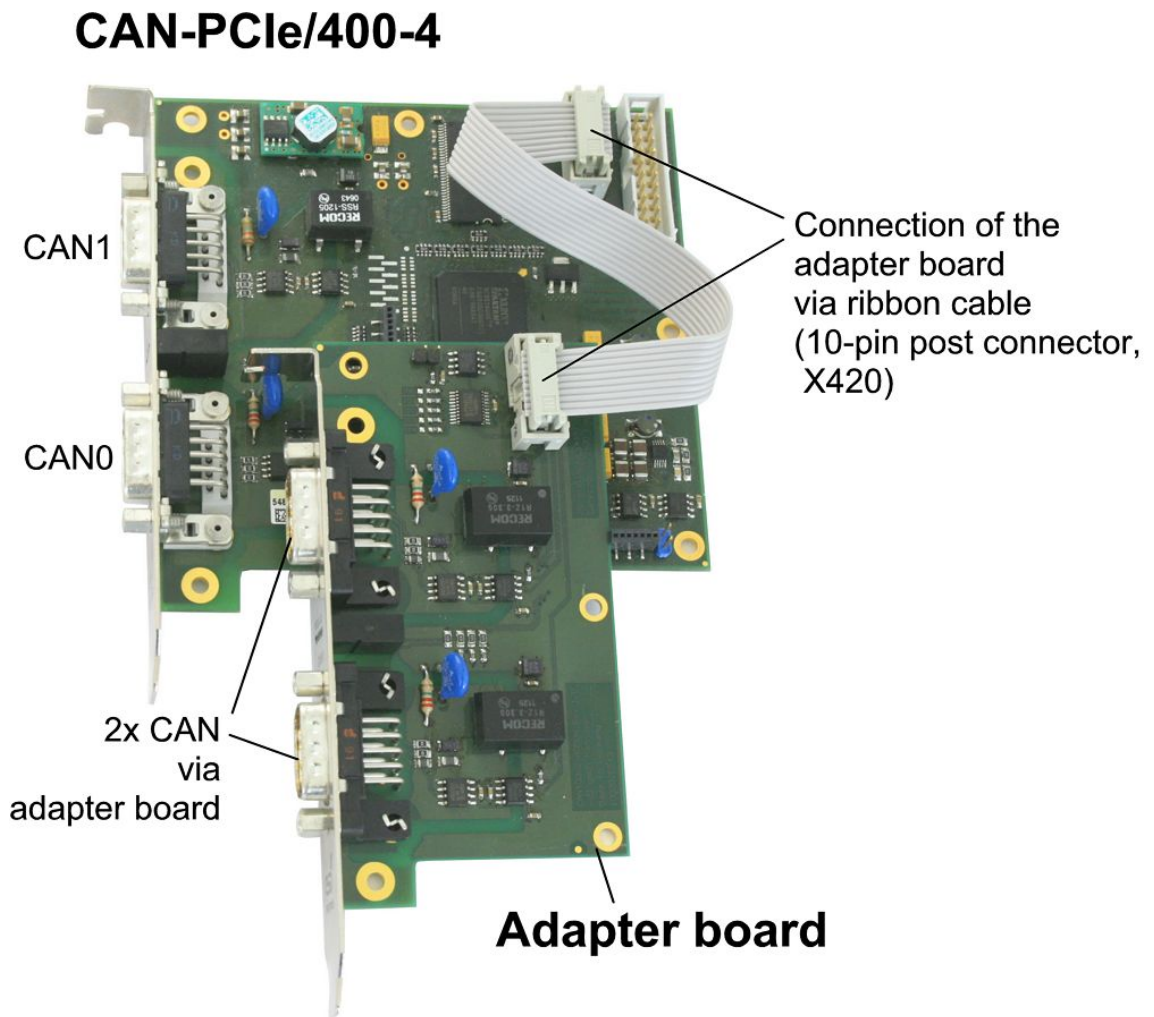

Figure 3: View of CAN-PCIe/400-4 with ribbon cable
8. If you are installing the CAN-PCIe/400-4 module with 4 CAN interfaces you have to install the adapter board in the PCI Express slot next to the CAN-PCIe/400 board. Connect the two boards with the included ribbon cable (see figure 3 on page 10) via the 10-pin post connectors on the board and on the adapter.